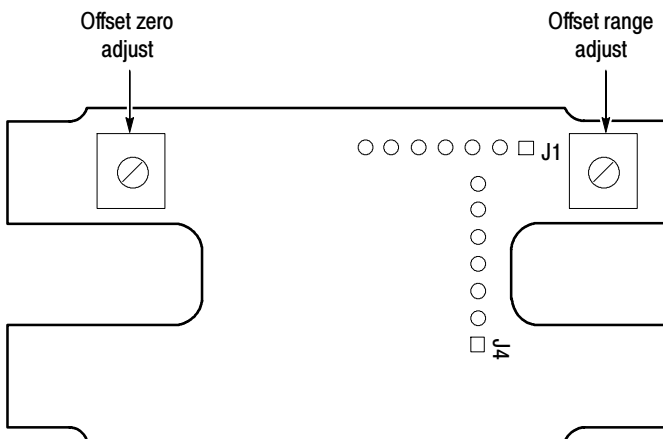

Figure 18: P6241 adjustment locations
Refer to Figure 18 for the location of the offset zero and offset range controls.
6. Adjust **Offset Range** for a DMM reading of $0\text{ V} \pm 5\text{ mV}$. Refer to Figure 18 on page 55 for the location of the offset range adjustment.